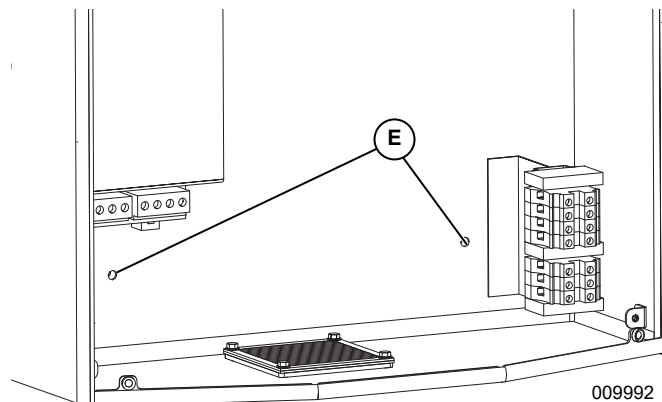

Figure 4-4. Mounting Holes
5. See Figure 4-4. Secure inverter to wall with two fasteners through mounting holes (E).